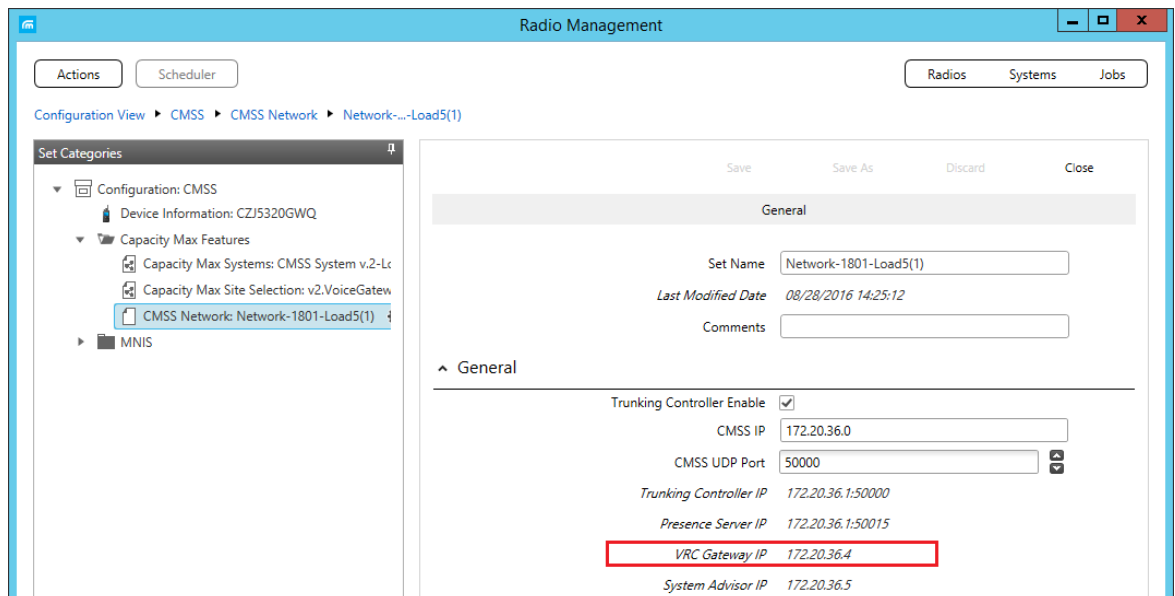

Figure 35: The IP address of the VRC Controller
IP	The IP address of the VRC Controller as specified in the Capacity Max system configuration (Figure 35).
2. In the left panel, click **CMSS Network** under **Capacity Max Features** (Figure 35).